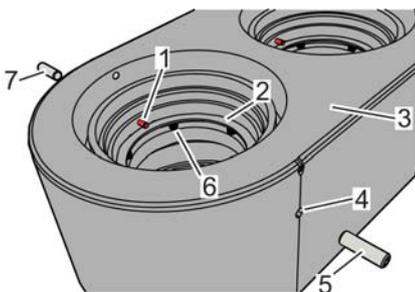

Fig. 111: Releasing the support ring
8. ➔ Unscrew the hexagon socket set screws (Fig. 111/5, 7) from the threaded boreholes (Fig. 111/4) and place to the side.
⚠ Ensure that (Fig. 111/1) the support ring (Fig. 111/2) is relieved by pushing back the hold-down pins and that the compression springs (Fig. 111/6) can pop out on all sides.
Carefully push back the hold-down pins (Fig. 111/1) on both sides above the support ring (Fig. 111/2) using a suitable tool until they are flush with the walls.
10. ➔ Carefully remove the support ring (Fig. 111/2) from the compression springs (Fig. 111/6) and place to the side.